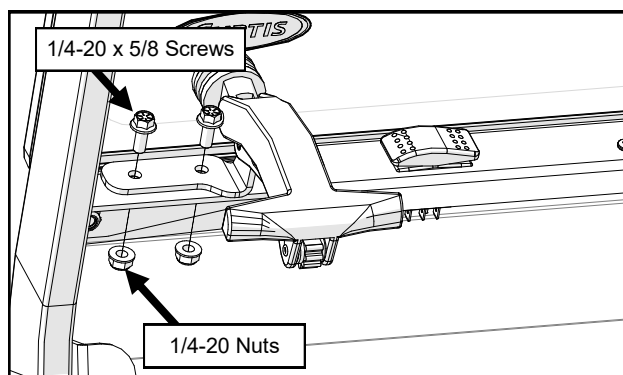

Fig. 13.3 (Secure Windshield Latches)
- 13.3 Secure the windshield latches to the side frames with the latches open, and tighten latch hardware. See Figure 13.3.